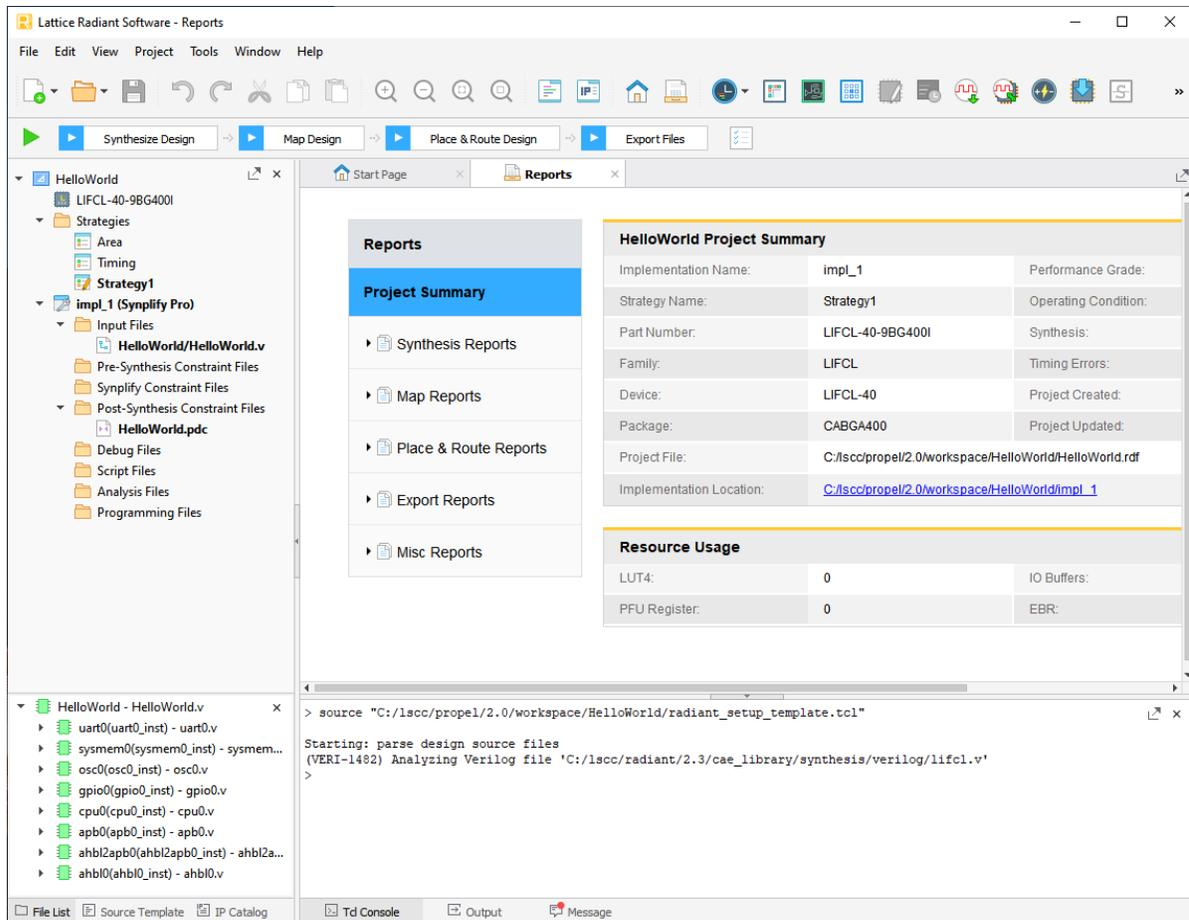

Figure 2.57. Radiant Project
- Lattice Radiant is launched with a Radiant project generated for SoC at background (Figure 2.57).